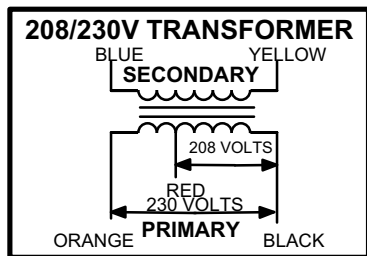

FIGURE 3
shown in figure 3, while 460 (G) and 575 (J) voltage transformers use a single primary voltage tap.